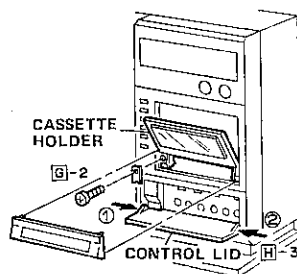

Figure 5-4
2. Detach the control indication plate shown in Figure 5-4, by removing binding agent and four hooks. Remove one screw from the cassette holder, and take the holder off.
3. Push the control lid in the arrow direction shown in Figure 5-4, and remove it (first the part ① and then the part ②).